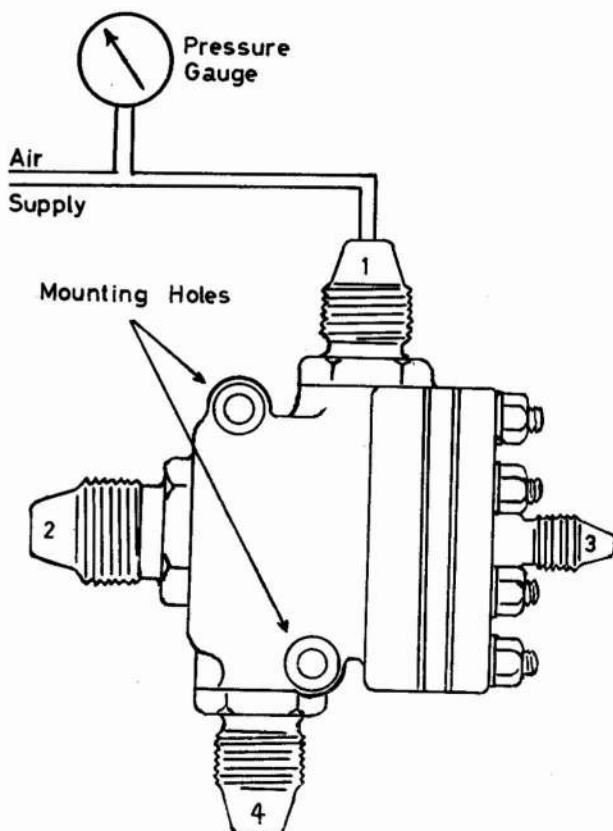

Fig. 1. Test circuit and connections
- (1) Remove the transit blanks and fit a pressure blank to connection 4 (fig. 1).
- (2) Connect the gas pressure supply to connection 1.
- (3) Connect the oxygen leak tester to connection 2.
(4) Slowly increase the supply pressure and check that there is no leakage from connection 2 until the reading on the pressure gauge is between 22.5—27.5 lb/in².
(5) Increase the supply pressure to 30 lb/in², then slowly decrease the pressure. Check that the leakage from connection 2 ceases at not less than 22.5 lb/in².
(6) Decrease the supply pressure to zero, disconnect the valve from the test rig and remove the blank. Disconnect the leak tester.
(7) Place the valve in a drying cabinet for one hour at 70°C. After drying out, fit transit blanks to all connections immediately.